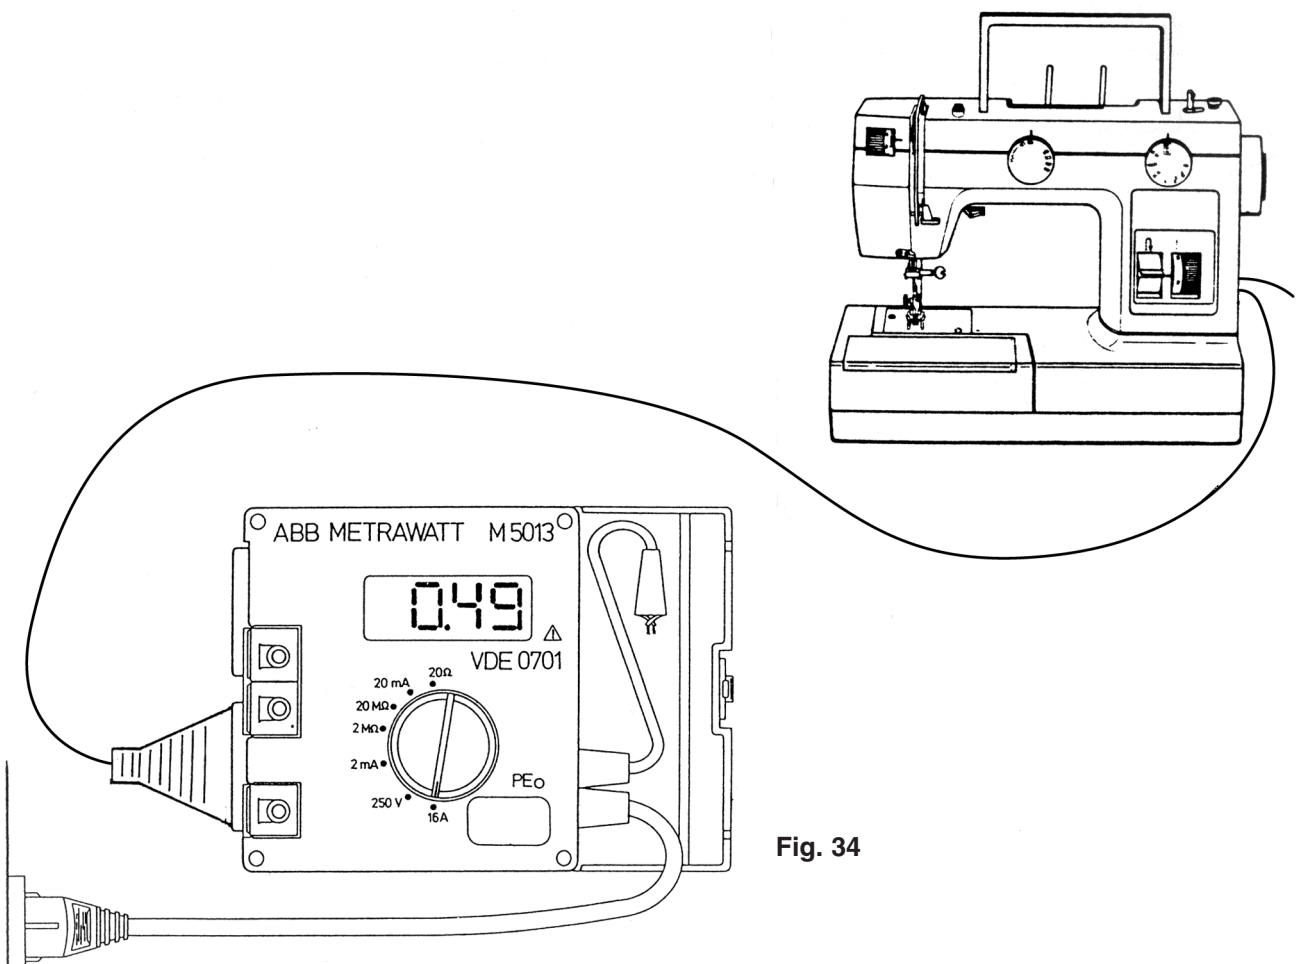

Fig. 34
- Set testing range switch at **16 A** (fig. 34).